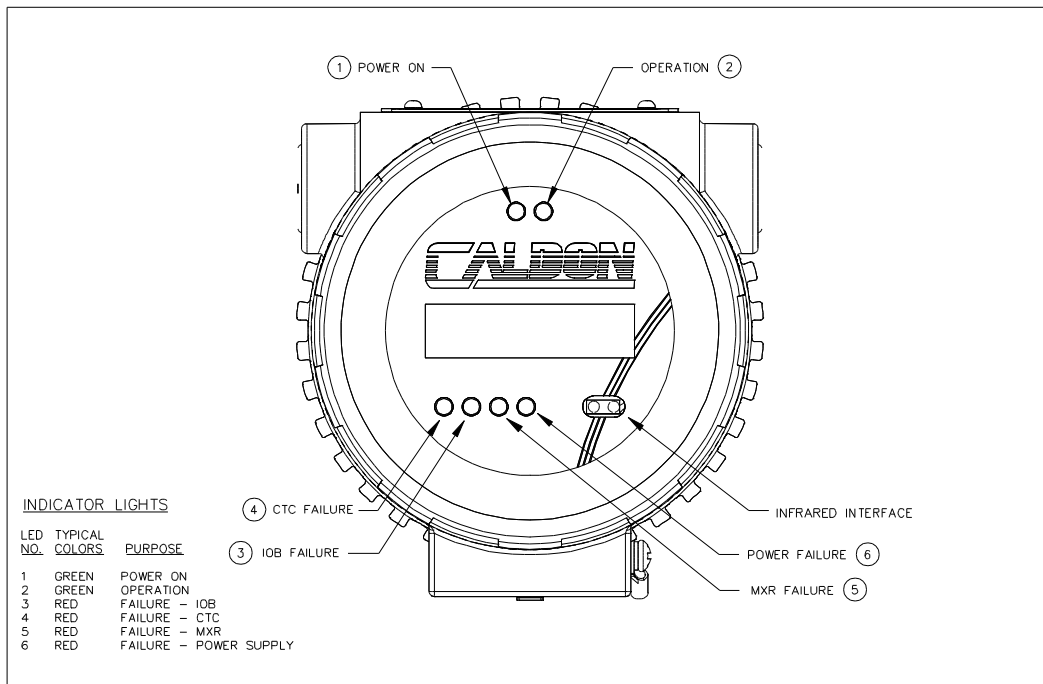

Figure 8.1: LED Indicators
1. With the unit energized, verify that power is being supplied to the meter and that the meter is operating (Figure 8.1).